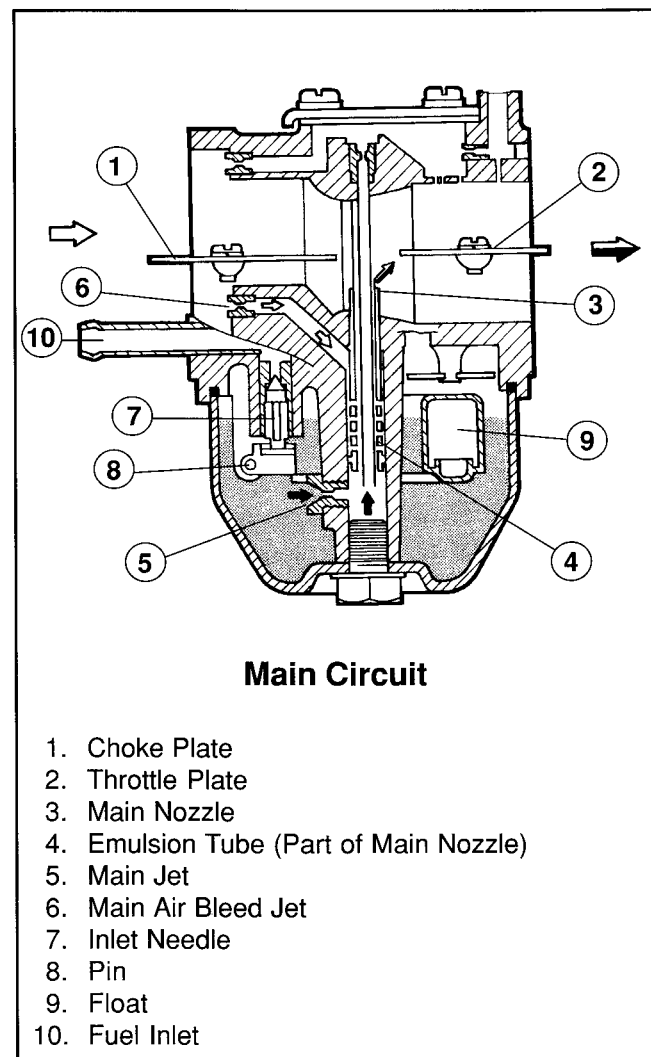

Figure 5-3. Main Circuit.
**Main Circuit** (Figure 5-3): At high loads, the engine operates mostly on the main circuit. As a metered amount of air is drawn through the main air bleed jet, fuel is drawn through the main jet. The air and fuel are mixed in the main nozzle and then enter the main body of air flow, where further mixing of the fuel and air takes place. This mixture is then delivered to the combustion chamber. The carburetor has a fixed main circuit. There is no adjustment feature present.